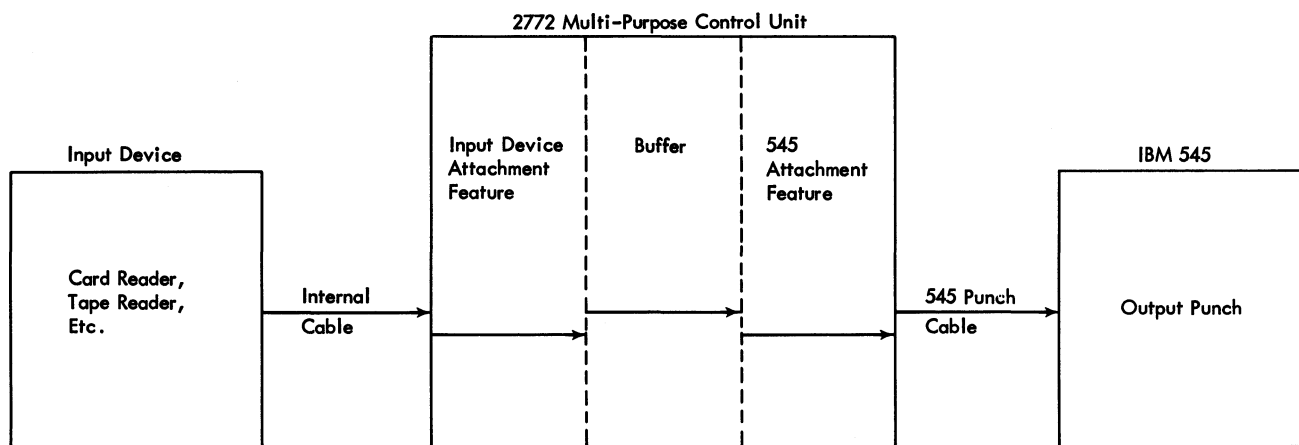
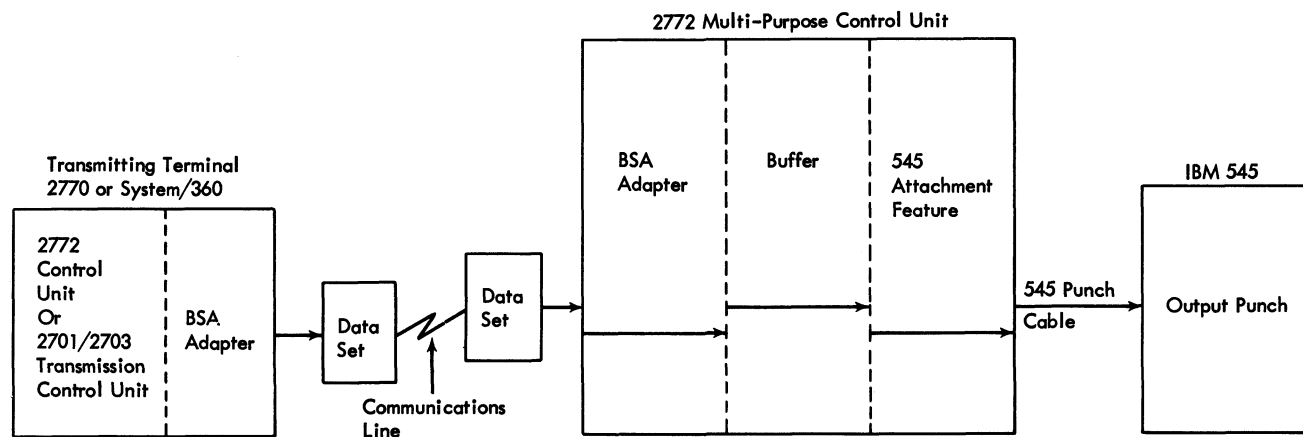

Figure 545-2. Data Flow--Home Mode and Autopunch Mode
Figure 545-3. Data Flow--Line Mode and Autopunch Mode
Three of these sources can be active, on an individual basis, when the 545 is operating in autopunch mode (Auto Pch/Key Pch switch on 545 keyboard set to AUTO PCH position). The source of data depends on the job setup of the 2770 system. If the 2770 terminal system is in home mode, the source of data would be one of the input units within the same 2770 system, such as Card Reader, Paper Tape Reader, etc. (Figure 545-2). If, however, the 2770 is operating in line mode, the source of data would be either: (1) one of the input units of another, transmitting 2770 terminal system (2770-to-2770 operation); or (2) output from an IBM System/360 (2770 and S/360 operation, Figure 545-3).